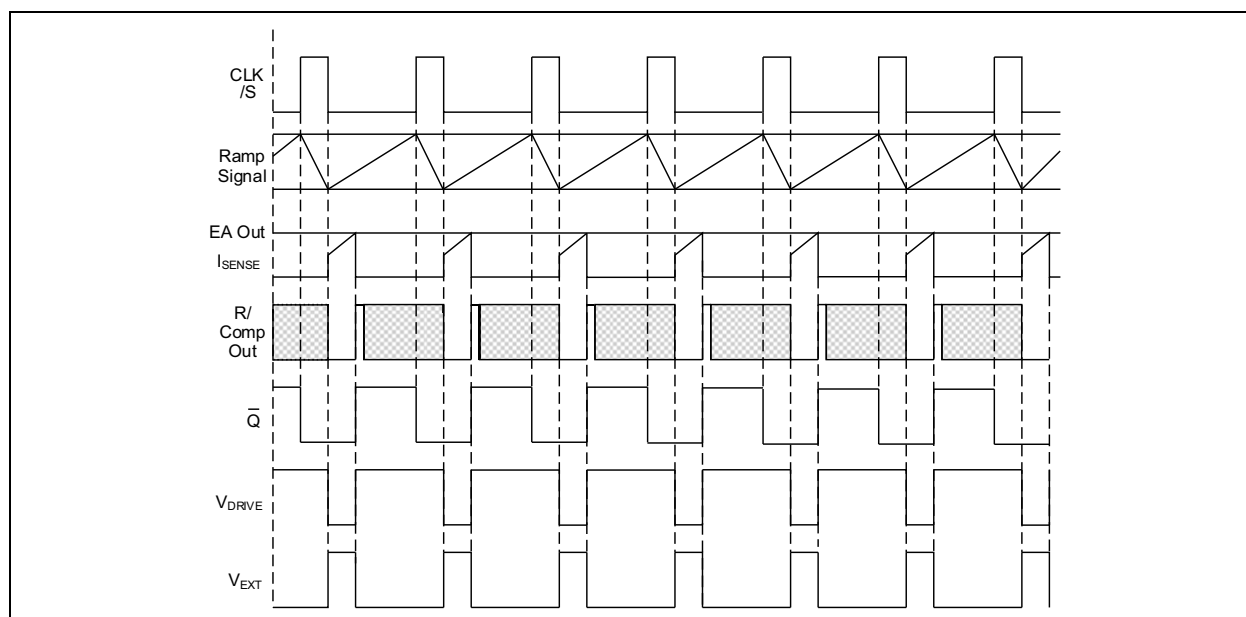

FIGURE 4-1: PWM Timing Diagram.
The beginning of a PWM cycle is defined by the internal CLK signal (a transition from high to low). Refer to Figure 4-1 for the detailed timing operation of the MCP1633 PWM controller. For normal operation, the state of the high-speed comparator output (R) is low and the Q output of the latch is low. On the high-to-low transition of the CLK signal, the SR inputs to the high-speed latch are both low and the Q output will remain unchanged (low). The output of the OR gate (V_{DRIVE}) will transition from high to low, turning on the P-Channel drive transistor in the output stage of the PWM. This will change the PWM output (V_{EXT}) from low to high, turning on the power train MOSFET and ramping current in the power train magnetic device. The sensed current in the magnetic device is fed into the CS input, shown as a ramp, and increases linearly until it reaches the same level as the divided down output of the error amplifier at the noninverting input of the high-speed comparator. The comparator output (R) changes state (low to high) and resets the PWM latch. The Q output transition from low to high turns off the V_{EXT} drive to the external MOSFET driver, thus terminating the current conduction cycle. The CLK signal will transition from low to high while the V_{EXT} pin remains unchanged. If the CS input pin never reaches the same level as the error amplifier output, the low-to-high transition on the CLK signal terminates the current switching cycle. This would be considered as the maximum duty cycle. In either case, while the CLK signal is high, the V_{EXT} drive pin is low, turning off the external power train switch. The next switching cycle will start on another transition of the CLK signal from high to low.